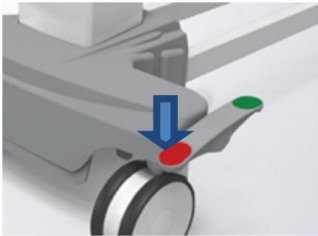

Figure 9a. Locked
1. Central Lock Position: Press the brake pedal downward, as shown in Figure 9a, to lock all the wheels. This keeps the bed stationary.